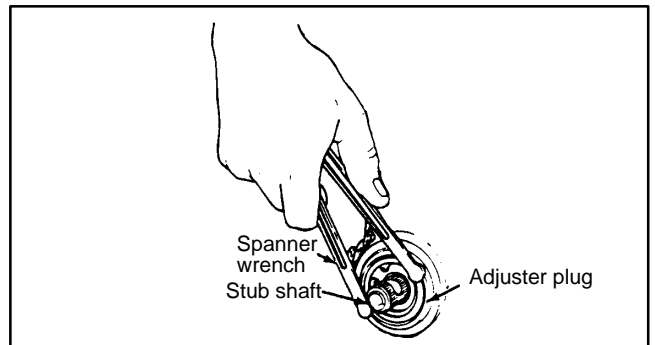

Figure 34
B. Remove bearing retainer (Item 32) by prying at raised area, then remove seal and needle bearing (Fig. 34).